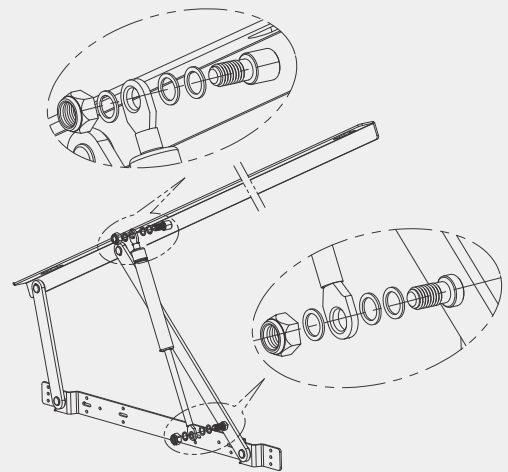

Fig.5
6. Lastly fit the gas spring as shown in diagram (Ref. Fig.5).